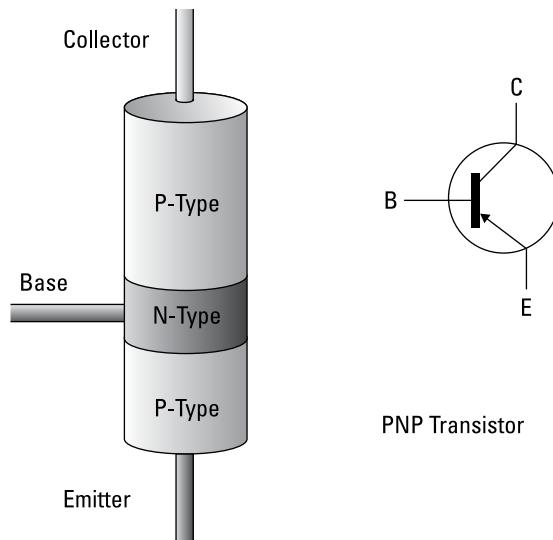

Figure 6-2:
Figure 6-2 shows the structure of two common types of transistors along with their schematic diagram symbols. We explain the details of this figure in the following paragraphs.
- ✓ **NPN transistor:** A p-type semiconductor sandwiched between two n-type semiconductors. This type of transistor has three regions: n-type, p-type and n-type (see the top part of Figure 6-2).
- ✓ **PNP transistor:** An n-type semiconductor sandwiched between two p-type semiconductors (in other words, the opposite way round). This type of transistor has three regions: p-type, n-type and p-type (check out the bottom part of Figure 6-2).